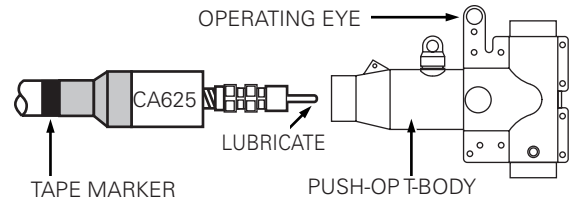

Figure 7. Figure 7. Install T-body.
- Slide PUSH-OP body onto cable until compression connector eye is centered between 600 A interfaces. (Refer to Figure 7.)